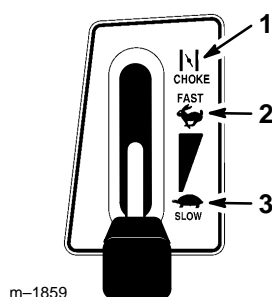

Figure 8
5. Move the throttle lever to “CHOKE” (Fig. 8).
7. After the engine starts, slowly move the throttle lever to “FAST” (Fig. 8). If the engine stalls or hesitates, move the throttle lever back to “CHOKE” for a few seconds. Then move the throttle lever to “FAST.” Repeat this as required.
1. Move the throttle lever to “SLOW” (Fig. 8).